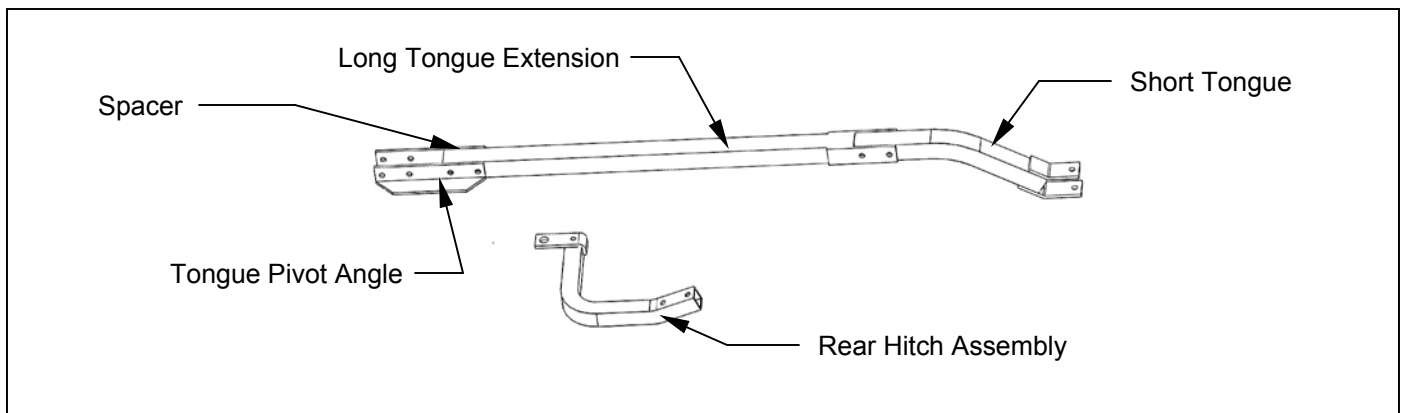

Figure 3: Long Tongue Assembly and Rear Hitch Assembly
1. When a long tongue is needed, remove the tongue pivot angles and spacer from the tongue assembly and attach to the tongue extension. **See figure 3.** Slip the tongue in between the two flats on the tongue extension and secure with 3/8" x 2-1/2" hex head bolts, lock washers, and nuts provided.